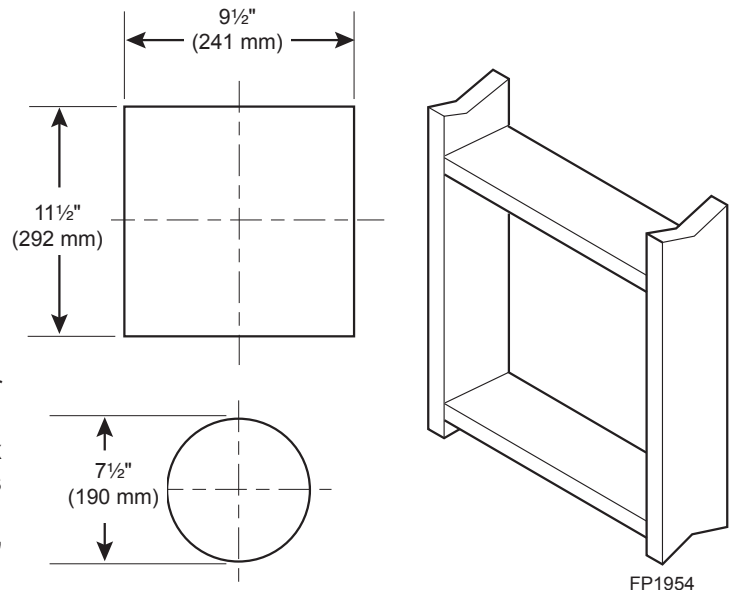

Figure 17 - Vent Opening Requirements
Combustible Walls: Cut a 11 1/2"H x 9 1/2" W (292 x 241 mm) hole through the exterior wall and frame as shown. *Figure 17*
3. Attach vent pipe assembly to the fireplace. Set fireplace in front of its permanent location to insure minimum clearances. Mark the wall for a 11 1/2"H x 9 1/2"W (292 x 241 mm) rectangle hole (for noncombustible material such as masonry block or concrete, a 7 1/2" [190 mm] diameter hole is acceptable). *Figure 17*. The center of the hole should line up with the center line of the horizontal rigid vent pipe end. Be sure to allow for minimum rise. Cut a 11 1/2"x9 1/2" rectangle hole through combustible exterior wall (7 1/2" diameter hole if noncombustible). Frame as necessary. Allow 1/4" minimum rise per foot. *Figure 17*
1. Establish vent hole through the wall. *Refer to Page 18, Figure 17*